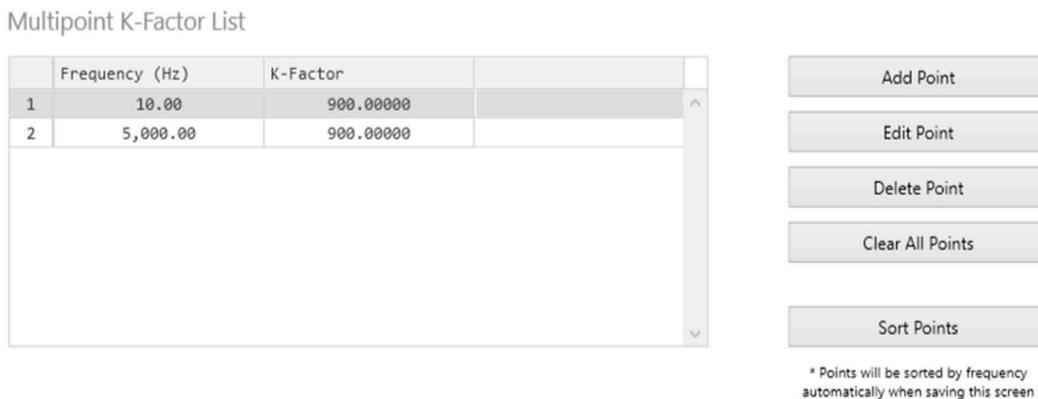

Figure 7.6—Multipoint K-Factor
- Multipoint K-Factor. Configurable as 2 points to 12 points (Figure 7.6). A number of points configured to represent the volume that passes through the turbine meter for each specified frequency. The MC Synergy will automatically interpolate for frequencies between configured points.